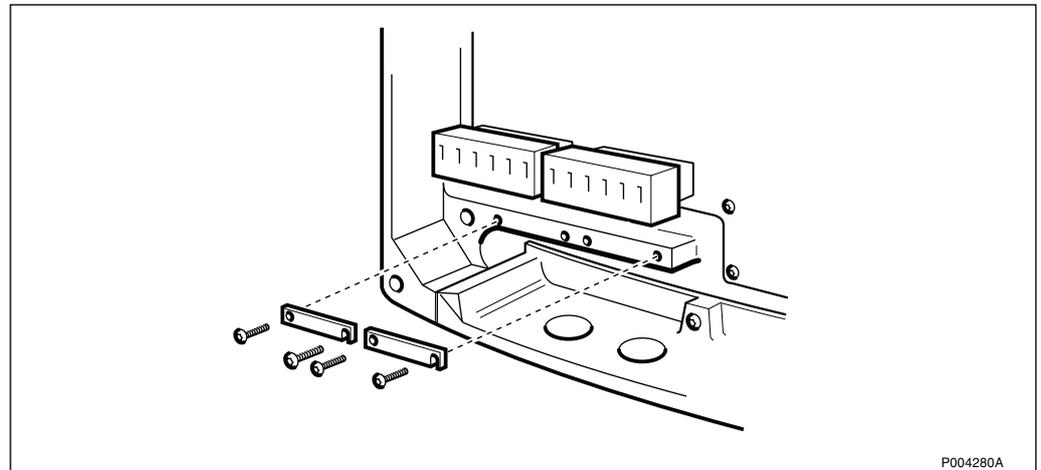

Figure 292 The PCM earthing connection
8. A pull-relief clamp (earth) is mounted between the cable inlet and the termination block. Place the cable underneath the washer and tighten, make sure the cable sheath has proper contact with the pull-relief clamp (earth), see Figure 292 on page 239.
3. A pull-relief clamp (earth) is mounted between the cable inlet and the termination block. Place the cable underneath the washer and tighten, make sure the cable sheath has proper contact with the pull-relief clamp (earth), see Figure 292 on page 239.
5. A pull-relief clamp (earth) is mounted between the cable inlet and the termination block. Place the cable underneath the washer and tighten, make sure the cable sheath has proper contact with the pull-relief clamp (earth), *see Figure 292 on page 239*.